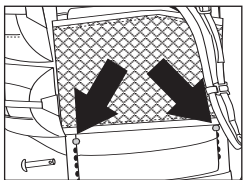
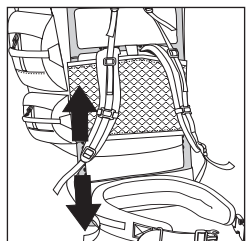

Figure 2H
Figure 2I
- c. Push in the two chrome buttons (Figure 2H) while sliding the frame up or down (Figure 2I).